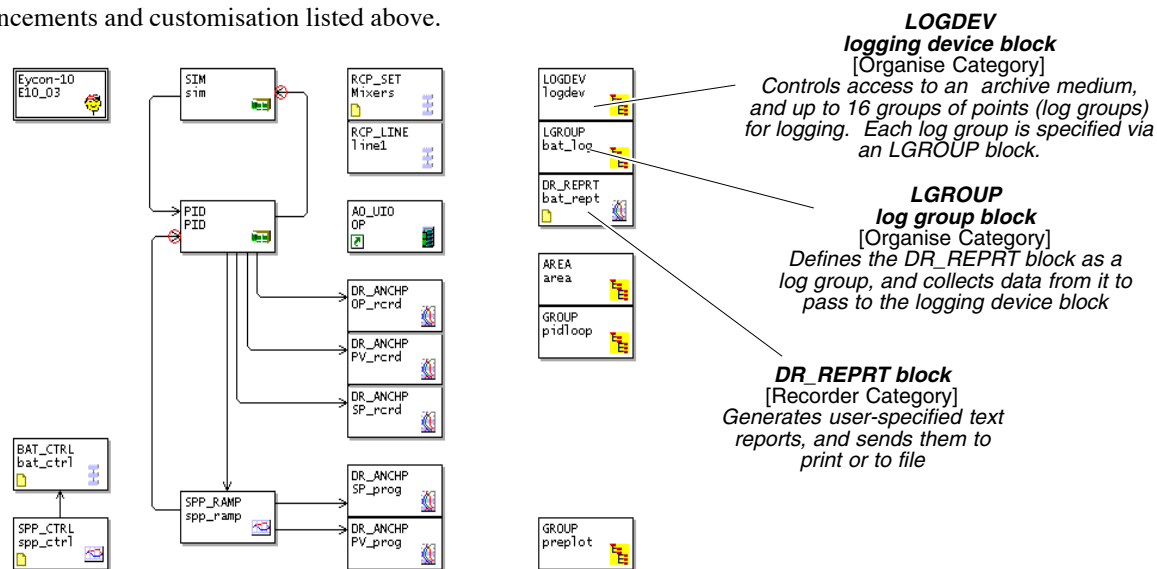

Figure 6-5 The enhanced batch strategy
Figure 6-5 shows the batch strategy you created earlier in this chapter, but with three additional blocks to provide some of the enhancements and customisation listed above.
- 1 In LINTools, open up the existing batch strategy, add the three new blocks and parameterise them according to Table 6-4. Note that you must also edit the **Name** fields in all blocks, according to Figure 6-5 if you wish.
Note *(Block type) blockname.field.subfield format, referring to Figure 6-5.